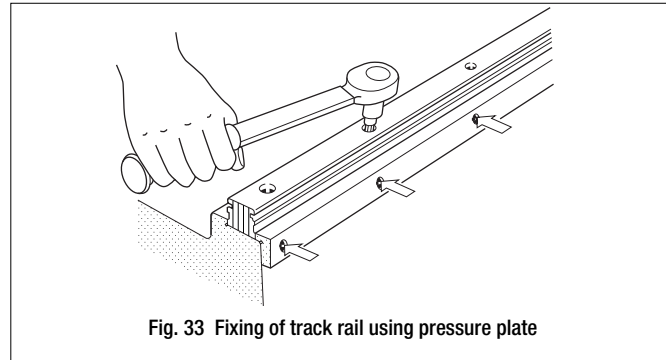

Fig. 33 Fixing of track rail using pressure plate
- Firmly press the reference mounting surface of Linear Way I track rail to the mating reference surface of the bed with pressure plates or pressure screws. Tighten the mounting bolt of the track rail at the pressure plate or screw position from one end of the track rail to the other in succession. (See Fig. 33.)